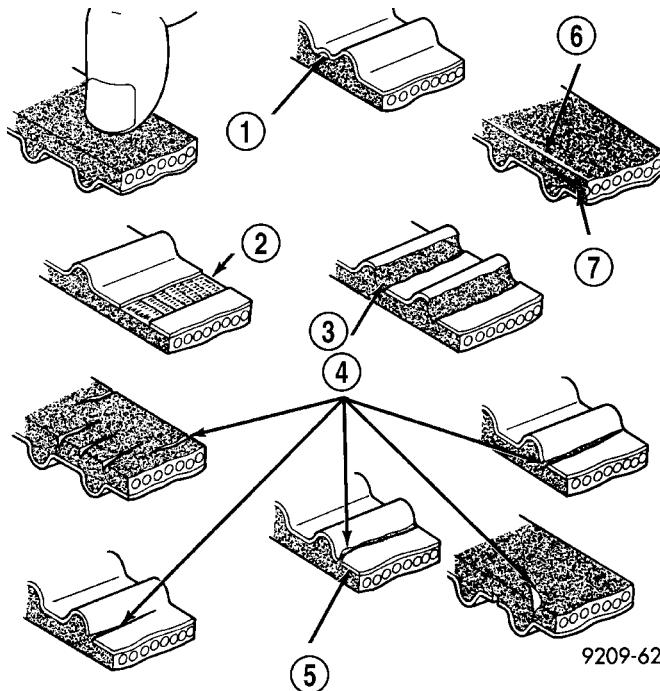

Fig. 151 Timing Belt Inspection
(1) Remove timing belt covers. (Refer to 9 - ENGINE/VALVE TIMING/TIMING BELT / CHAIN COVER(S) - REMOVAL)
(2) Inspect both sides of the timing belt. Replace belt if any of the following conditions exist (Fig. 151):